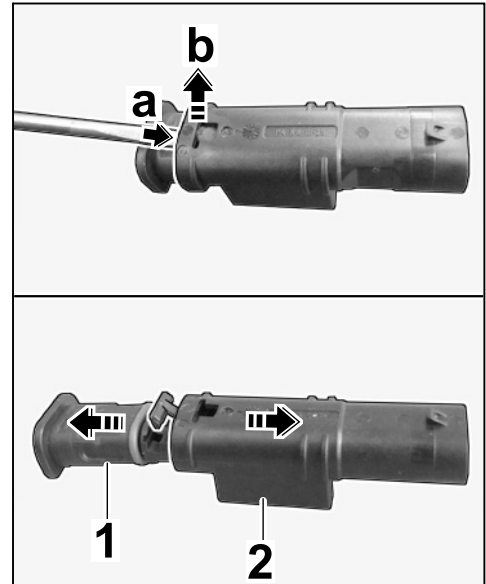

Figure 29
- 4.7.1 Insert a small screwdriver between the pin connector socket \Rightarrow *Figure 29-1* and housing \Rightarrow *Figure 29-2* \Rightarrow *Figure 29-a*.
Lift carefully \Rightarrow *Figure 29-b* and disconnect the pin connector socket from the housing.